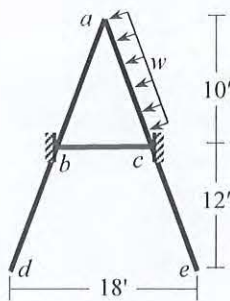

Fig.1
1. Frame structure *abcde* shown in Fig.1 is subjected to a dynamic load, $w = 3t^2$ (k/ft). Use *Constant Average Acceleration (CAA)* Method to calculate the rotation of joint *a* at time $t = 0.10$ sec [Given: $EI = 45 \times 10^4$ k-ft², $\mu = 0.0045$ k-sec²/ft², *Damping ratio of the system* = 4.5%].